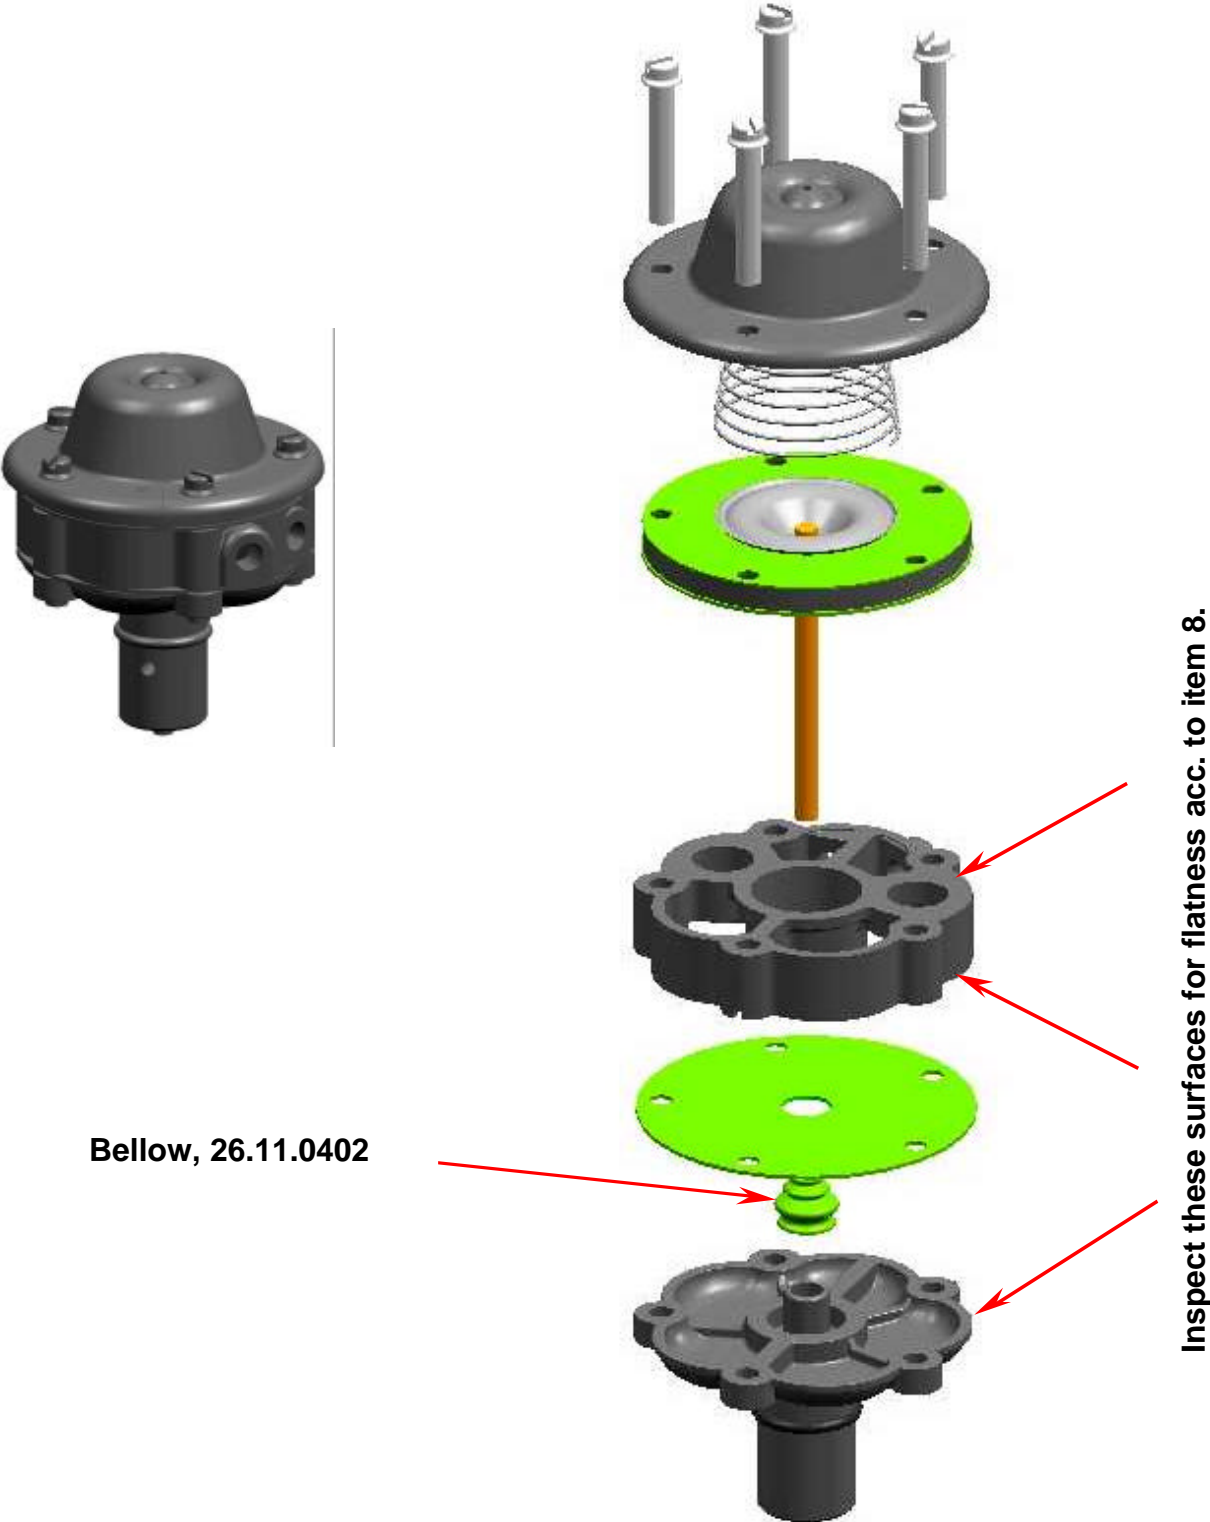

Fig. 1.
3. Disassemble the fuel pump /Fig. 1/.
8. Check pump sealing surfaces for their condition (flatness) – see *Fig. 1*. Inspect the surface by an ink test. Any breaks in contact areas are not allowed. Repair the elements by grinding or lapping as necessary.